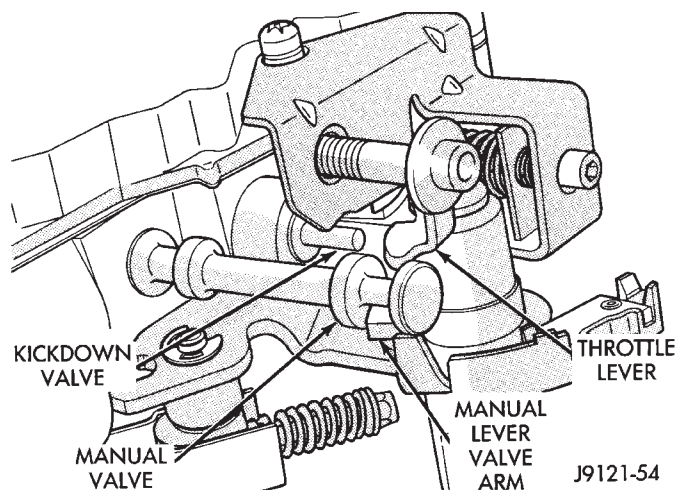

Fig. 84 Manual And Throttle Lever Alignment
(5) Align manual lever with detent ball and manual valve. Hold throttle lever upward. Then press down on manual lever until fully seated. Remove detent ball retainer tool after lever is seated.
(6) Then install manual lever seal, washer and E-clip.
(7) Verify that throttle lever is aligned with end of kickdown valve stem and that manual lever arm is engaged in manual valve (Fig. 84).
(8) Position line pressure adjusting screw in adjusting screw bracket.
(9) Install spring on end of line pressure regulator valve.
(10) Install switch valve spring on tang at end of adjusting screw bracket.
(11) Install manual valve.
(12) Install throttle valve and spring.
(13) Install kickdown valve and detent.